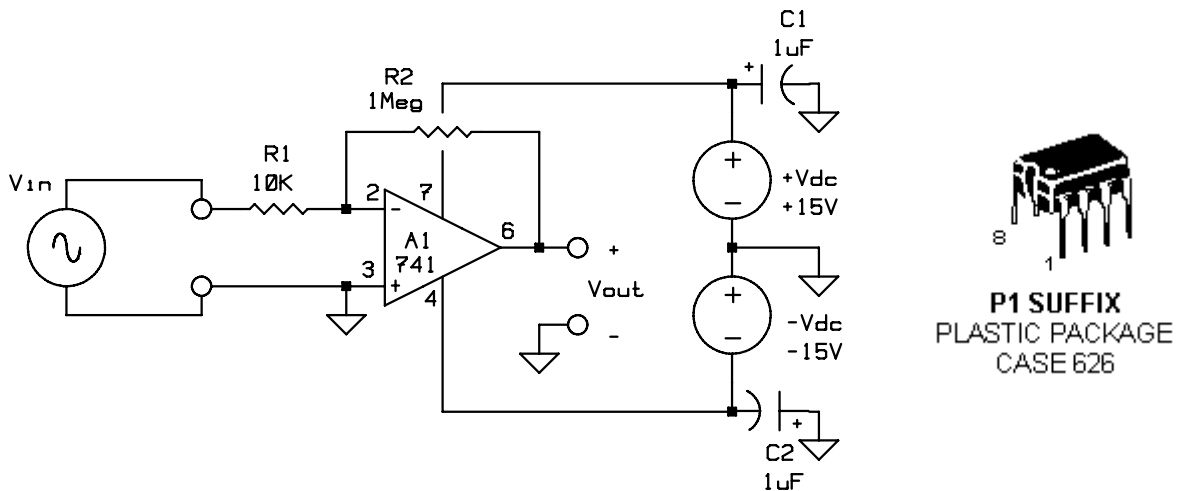
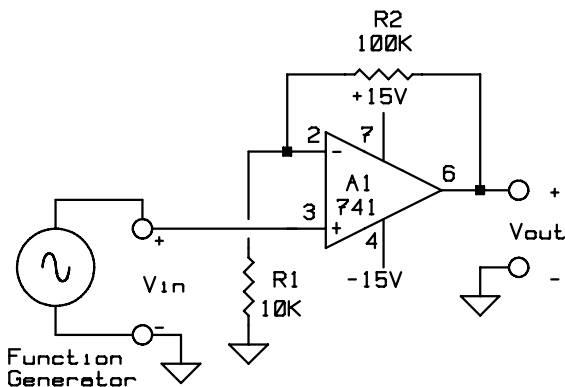

Fig. 1. Inverting amplifier.
Fig. 2. Non-inverting amplifier.
Construct the circuit of Fig. 1 using a "Protoboard." For best results, assign one bus on the Protoboard to be the ground bus, and run separate short wires from each grounded connection (including C1, C2, the signal source V_{in} , pin 3 of the OP-AMP, and scope ground leads) to this bus. Set the two dc power supplies for 15 V each, with their current limiters set for not too much more than 50 mA.
Construct the "non-inverting" amplifier shown in Fig. 2. Use both positive and negative 15-V power supplies with bypass capacitors as was done in Fig. 1. You will note that these power supplies are not shown explicitly in Fig. 2 (they seldom ever are).
1. Predict the ideal voltage gains of Figs. 1 and 2, based on an infinite-gain OP-AMP.
3. Discuss the maximum allowable output signal level in Fig. 1. What determines the saturation levels of V_{out} ?
4. Why is the measured gain of Fig. 1 frequency dependent?